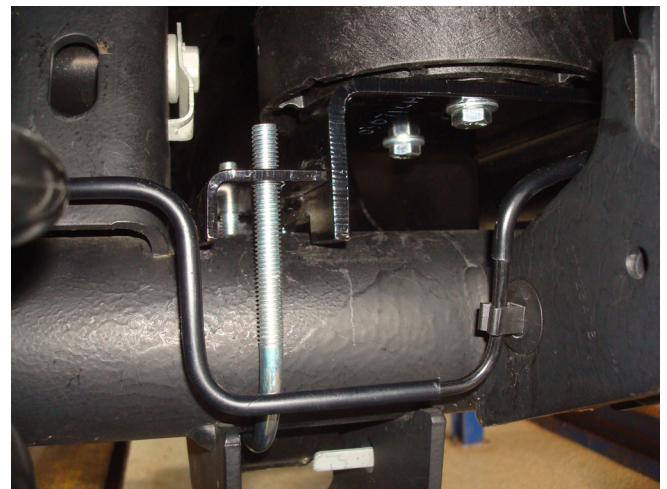

Fig. 18
- With the axle still hanging down, set the left (driver's) side assembly onto the axle, making sure the cradle is offset to the back of the vehicle (Fig. 18). Insert the outboard side U-bolt into the mounting leg of the bracket.